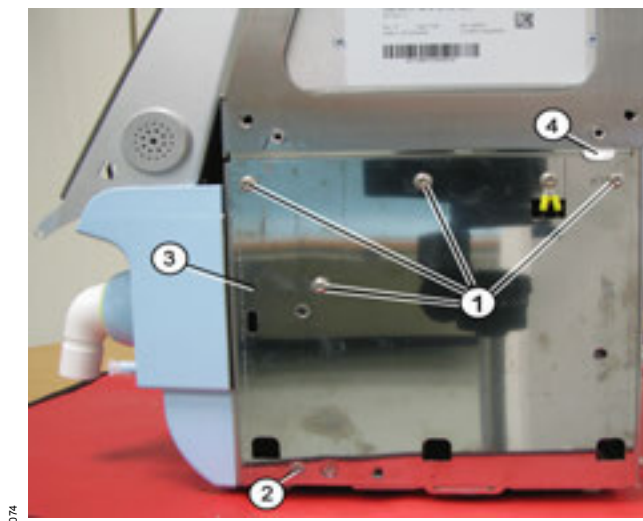

Fig. 65 Right side view of device: Screws
- 1 Push the upper side of the service flap (Fig. 65/3) under the tab (Fig. 65/4) of the sheet-metal housing and, without trapping any tubing or cable, fit the service flap as follows:
- Tighten the screws (Fig. 65/1) with a torque of 1.8 Nm \pm 0.2 Nm.
- Hand-tighten the flat-head screw (Fig. 65/2).